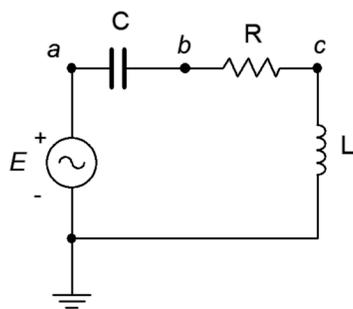

Figure 2.21
37. For the circuit of Figure 2.21, find  $v_b$  and  $v_{ac}$ . The source is a 50 volt peak-peak sine at 10 kHz,  $R = 100 \Omega$ ,  $C = 200 \text{ nF}$  and  $L = 1 \text{ mH}$ .